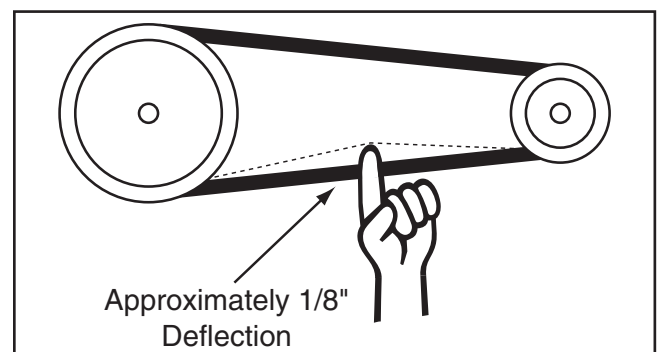

Figure 47. Checking for belt deflection.
3. The V-belts tighten uniformly because of the idler pulley. Rotate the adjustment bolt until the V-belt has approximately $\frac{1}{8}$ " of deflection when moderate pressure is applied midway between the pulleys (see **Figure 47**), then re-tighten the jam nut and close the V-belt cover.